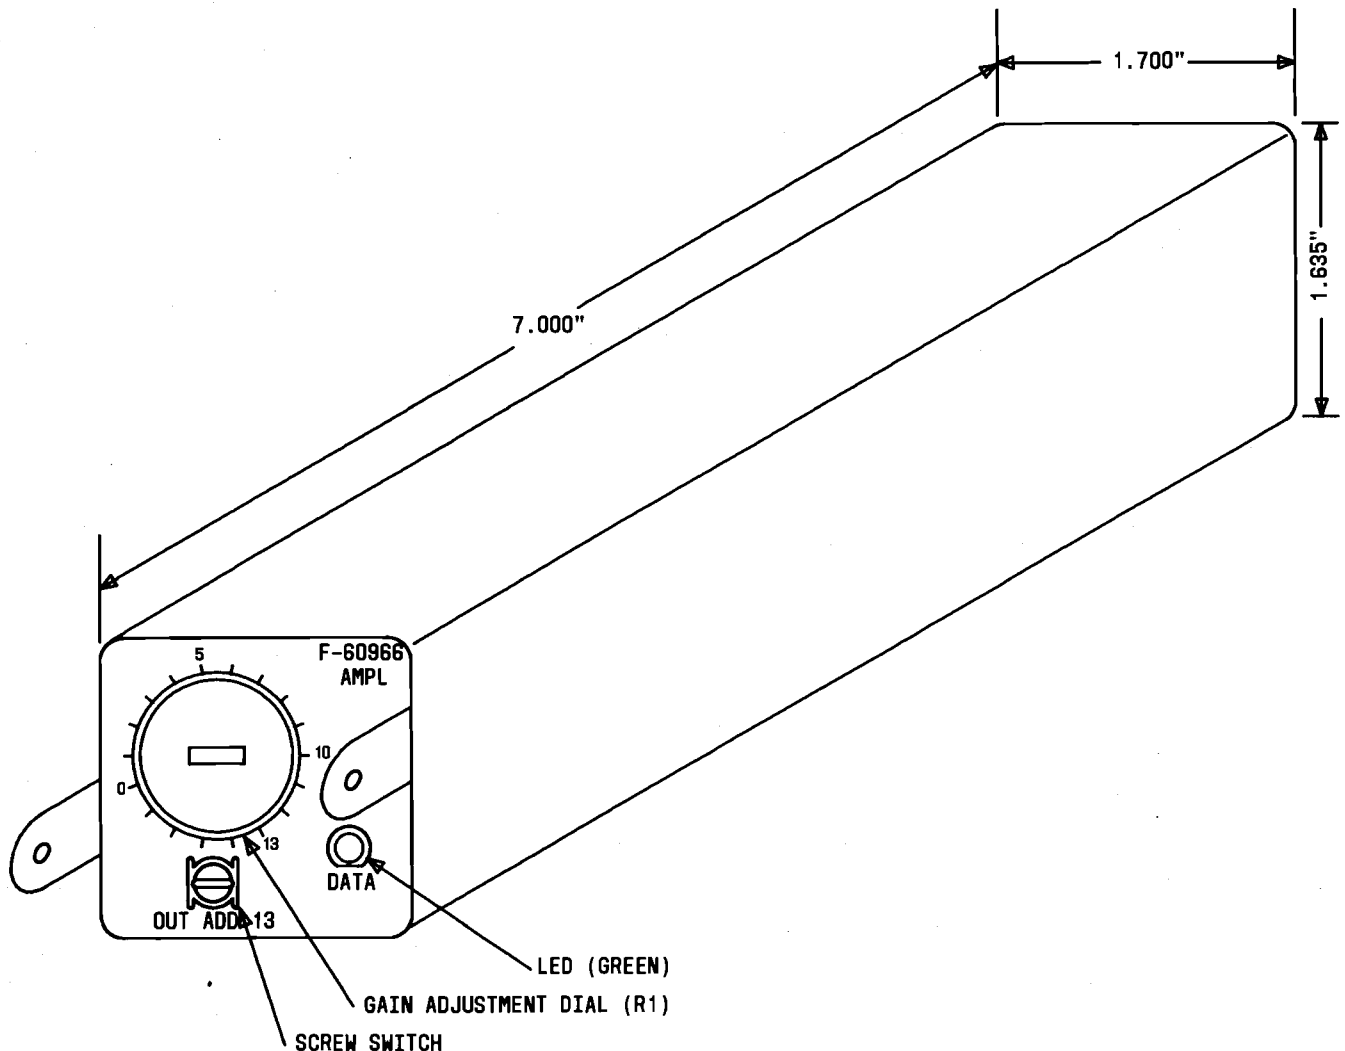

Fig. 2—Energy Gated Amplifier
2.01 The F-60966 EGA has been designed to be physically similar to the 227D amplifier in order to maximize the compatibility with the V4 system. The orange front panel of the EGA permits rapid identification of the unit. The EGA along with dimensions is shown in Fig. 2